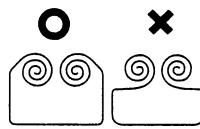

Fig.2
- With the black side of the ribbon facing upwards, place one of the reels on the reel shaft on the right. (Fig.2) Make sure that the reel is securely in place.